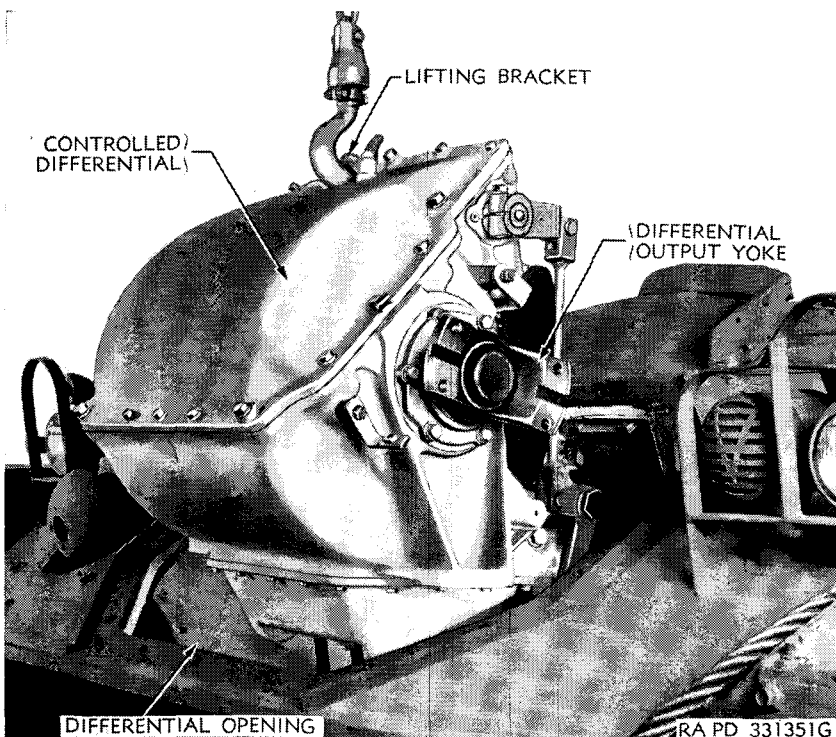

Figure 126. Removing controlled differential.
- (14) *Remove differential mounting bolts.* Remove two front and one rear differential mounting bolts and nuts and remove bolts.
- (15) *Remove differential.* Attach chain hoist to lifting bracket on differential cover. Take up weight of differential on hoist until it clears mounting brackets on hull floor. Raise differential very slowly, and see that it does not strike instrument panel (fig. 126). Remove differential and lower to ground. Remove chain hoist.